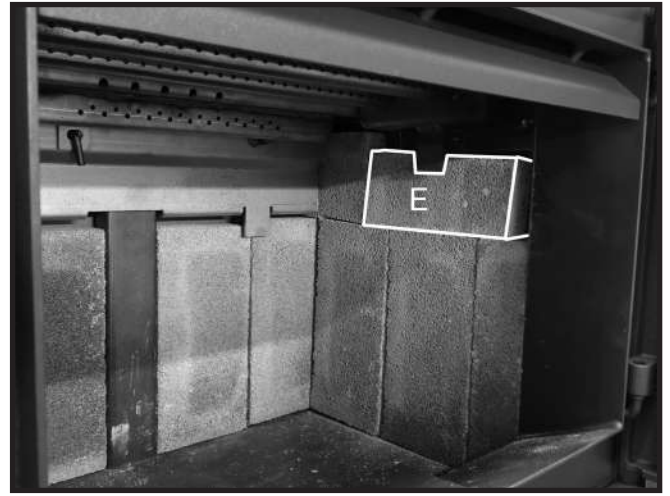

Figure 17: Final side wall firebrick in position.
2. Slide an "E" firebrick under the side wall brick rail tab and rest on top of the three previously placed side wall firebricks (Figure 17). Repeat steps 4-7 on the other side.